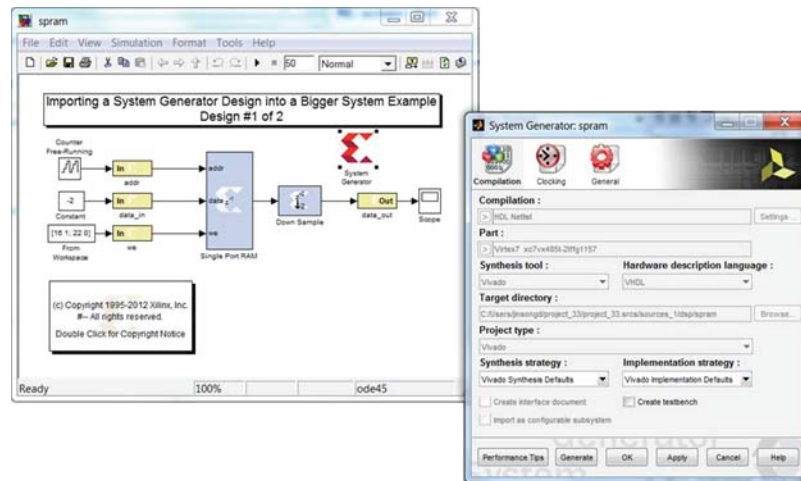

Figure 3-18: System Generator
4. When **Create Sub-Design** is selected, System Generator and MATLAB are launched to create and manage the DSP source files, as shown in Figure 3-18.